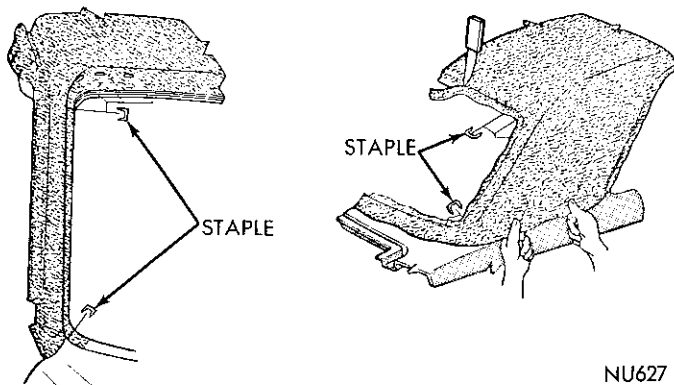

Fig. 5—Cover Application at Window (2 Door)
(10) Starting at top center, secure cover to windshield reveal using staples spaced 1-1/2 inches apart (maximum) or tacks spaced 1/2 inch apart (Figs. 5 and 6). **Do not apply staples at moulding clip holes.**
(11) Position cover to roof panel extension making certain all wrinkles are removed.
(12) Starting at top center, secure cover to rear window reveal using staples spaced 1-1/2 inch apart (maximum) or tacks spaced 1/2 inch apart (Figs. 5 and 6). **Do not apply staples at moulding clip holes.**
(13) Trim fabric at base of windshield reveal and at same area on "A" post. At lower edge of "A" post,